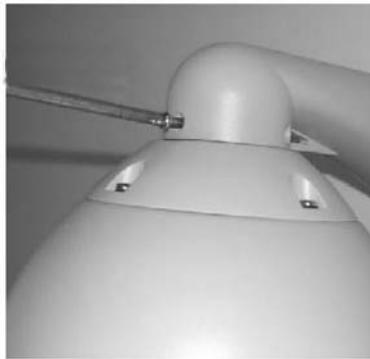

Fig 1.7
**Step 5-** Fix the dome to the wall bracket, by tightening the screws, as shown in Fig 1.7.